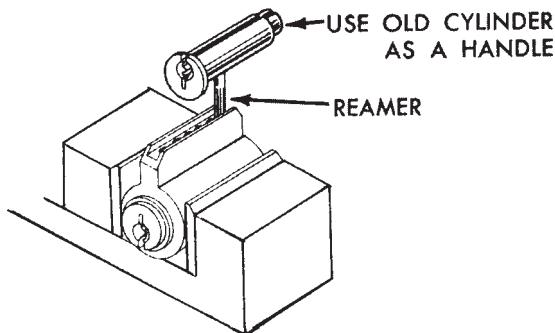

Figure 9.24 Ream the pin holes through the shell, master ring, and plug. (Emhart Corp.)
3. Ream pin holes through the shell, master ring, and plug (Fig. 9.24).